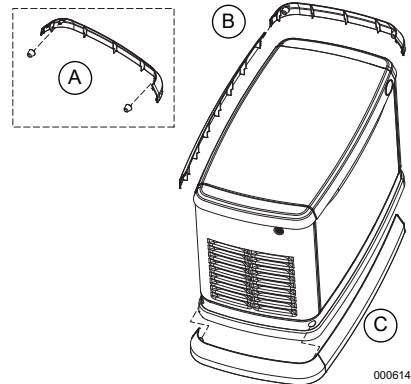

Figure 4-3. Fascia Installation
2. See Figure 4-3. Remove rubber bumpers from bag and screw them into threaded holes located inside the end pieces of the fascia (two each) opposite one another (A).